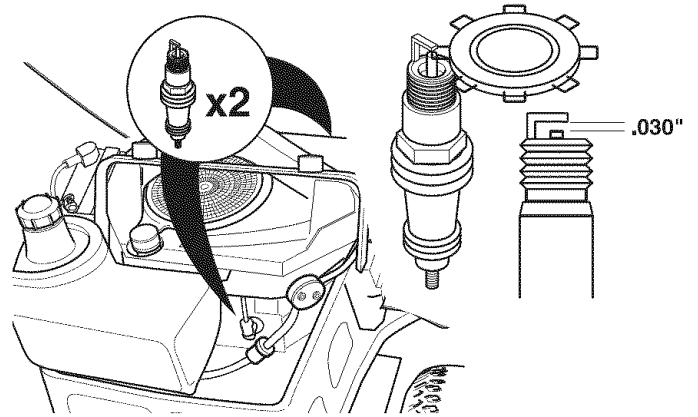

Figure 32. Spark Plug Gapping
4. Check the spark plug gap. It should be .030" (see Figure 32).